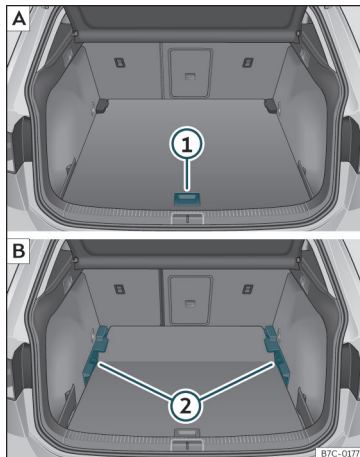

Fig. 108 Variable luggage compartment floor: **A** raised position; **B** lowered position.
- To move from the low position to the high position, lift the floor using the handle »» **Fig. 108** **1**, and pull it back until the front of the floor has fully passed the supports **2**.
- To move from the high position to the low position, lift the floor using the handle »» **Fig. 108** **1**, and pull it back until the front of the floor has fully passed the supports **2**.
- Lift the variable floor in the high position using handle »» Fig. 108 ①, pull it up and push it towards the backrest of the rear seats until it folds along the hinge line and the movable part of the floor is resting on itself.
- To move from the high position to the low position, lift the floor using the handle »» Fig. 108 ① and pull it back a little.
- Push the variable floor towards the folded rear seats with the handle ① using some downward pressure so that the moving part of the floor is flush with the backs of the rear seats.